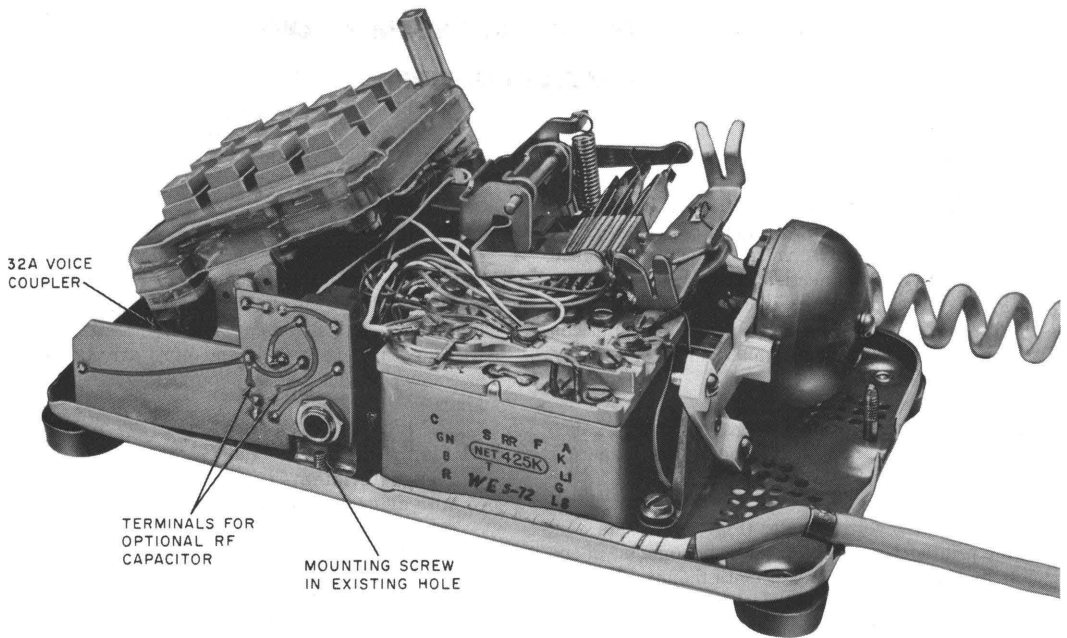

Fig. 2—32A Voice Coupler Mounted in 2511F Telephone Set (Cover Removed)
**2.03 Ordering Guide (Fig. 2 and 3):** Each kit contains a black telephone housing with a clearance hole for the plug and a 32A voice coupler. Fig. 2 shows a 32A voice coupler mounted on the telephone base pan, and Fig. 3 shows the modified housing installed. The kits are coded as follows:
shown in Fig. 2. Use existing spare hole in lower right side of base pan to fasten mounting bracket. Put the screw through the base pan from the bottom side into the threaded hole of the mounting bracket and tighten securely.